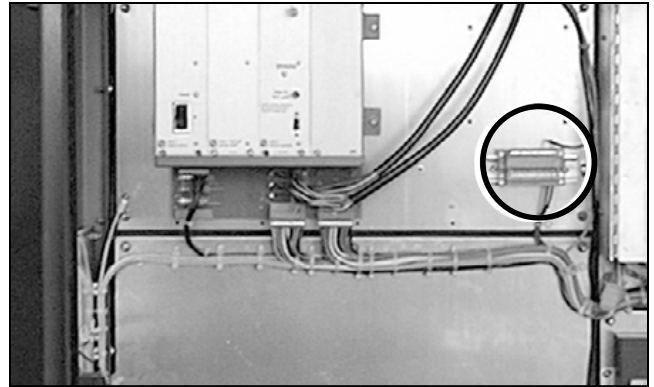

Figure 122. Attaching the ground wires to the terminal block.
- (f) Up to three pairs of ground wires, VS-G1 and VS-G2, are included. See the wiring diagram for details. Attach the ground wires to the terminal block specified in the drawings provided, and fully tighten the set screws. See Figure 122.